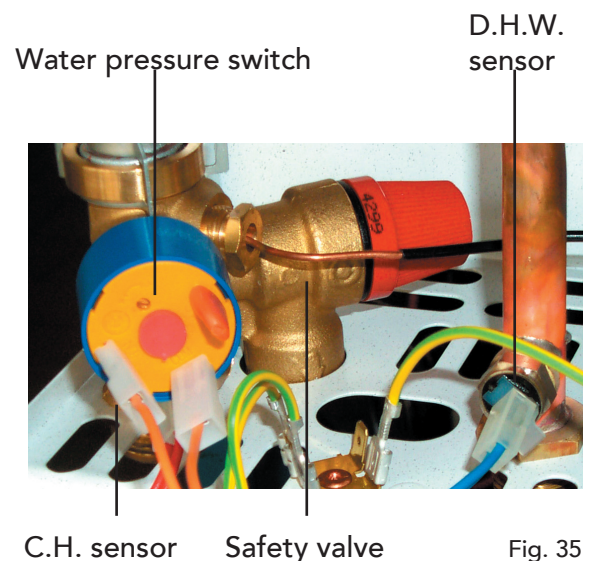

Fig. 35
**7.07.1 D.H.W. temperature sensor or Central Heating Temperature Sensor (fig. 35)**
- Identify the sensor from figure 35
**7.07.2 Water Pressure Switch (fig. 35)**
- Identify the switch from figure 35
**7.07.3 Safety Valve (fig. 35)**
- Identify valve from fig. 35